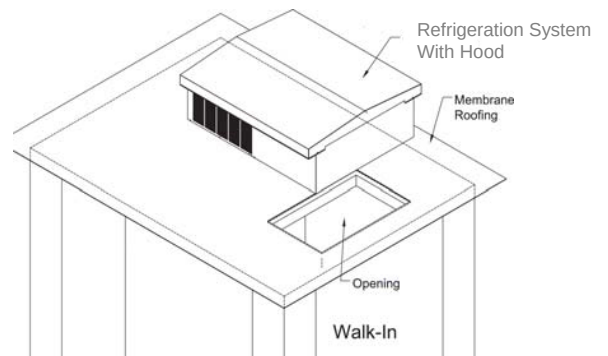

Figure 5
- Set the Refrigeration System over the opening in the curb. Remove the enclosure from the condensing unit portion of the system and drill two 9/16" holes through the system base, membrane roof material, curb, and the foamed ceiling section. The holes should be located on opposite sides of the unit. Insert one 1/2" threaded nylon rod into each hole and place one washer and nut on the condensing unit end of the threaded nylon rod. Place a second washer and nut on the inside of the walk-in and tighten securely. Replace the enclosure and attach the outdoor hood with the drive screws provided. Refer to Figure 5. The nylon rods, washers, and nuts are provided.